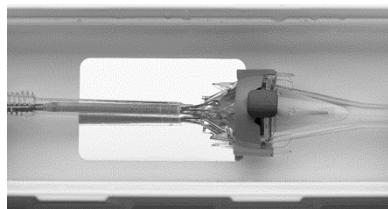

Figure 38
10. Advance the capsule to cover the bioprostheses frame paddles (Figure 38), pausing when the capsule covers the proximal half of the paddles to confirm the paddles are both still properly seated before advancing further.